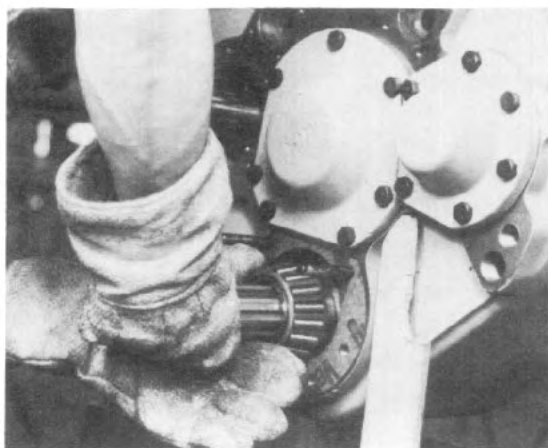

Fig. 16
7. Install the spacer ring (Item 51). Heat the rear bearing cone (Item 52) to approximately 250°. Use heat resistant gloves to handle the bearing (See Fig. 16). Install quickly tapping into place if necessary. Install the spacer tube (Item 54) on the shaft. The shaft can be moved toward the front of the case to allow a visual inspection of the mating parts.